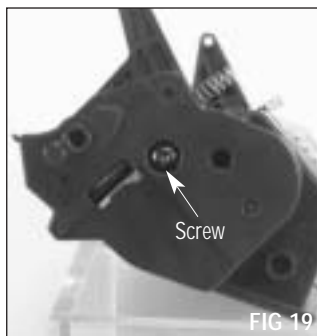

FIG 19
6. Replace the end plates. Secure the screws from each side of the hopper section (FIG 19 & 20).